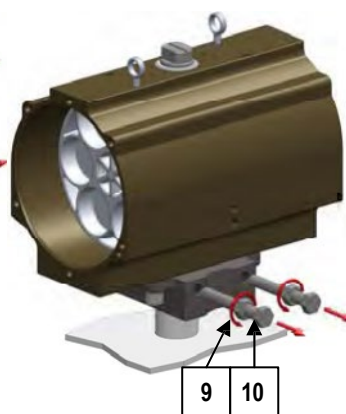

Fig. 8
7. Loosen nuts (9) and unscrew completely screws (10) (see Fig. 8).